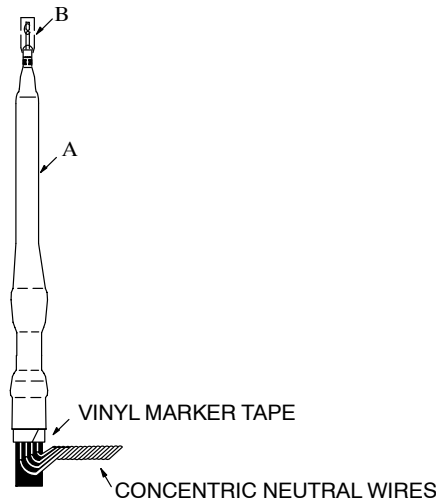

FIGURE 5
11. Collect all neutral wires together and connect to system ground. See Figure 5.